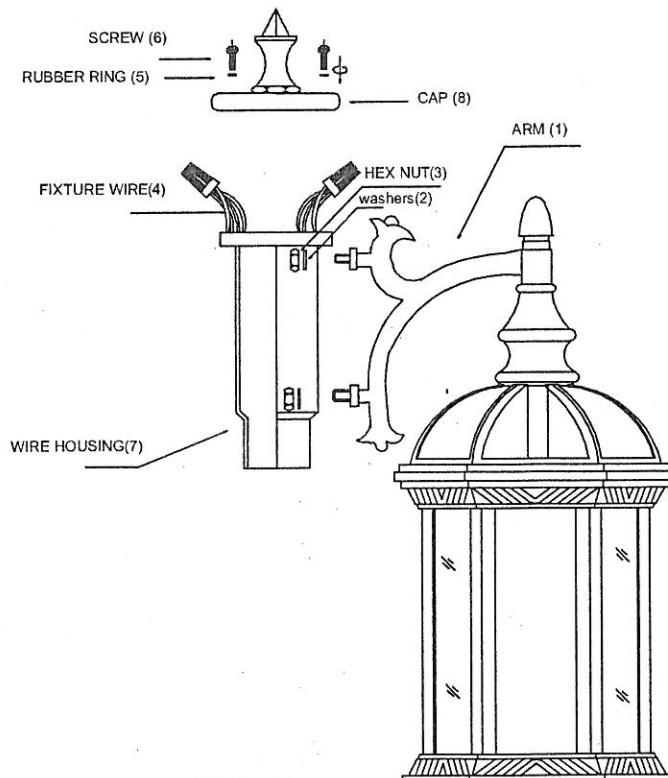

FIG. 3
Fix the ARM (1) on the WIRE HOUSING (7), tighten with the HEX NUT (3) and the RUBBER RING (2). Repeat this step for the remaining two head assemblies. Feed the wiring through the top opening. Connect the RIBBED FIXTURE WIRES (4) to the provided RIBBED EXTENSION WIRE. (Fig.3)
Carefully push the wire nuts into the WIRE HOUSING (7). Place the CAP (8) on the top of the WIRE HOUSING (7), using the SCREW (6) and the RUBBER RING (5) to tighten (Fig.3)